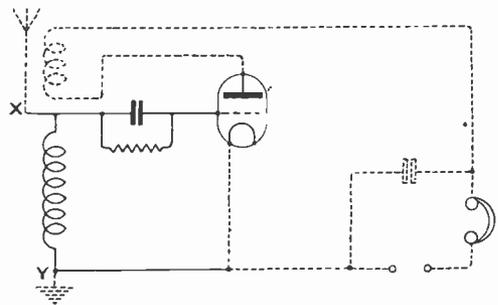

Fig. 4.
(4) Switch on L.T. and H.T. and tighten reaction coupling until the set oscillates (or doesn't, as the case may be). If no oscillation results, reverse the connections of the plate coil (unless you are certain they are correct), and try again. No response indicates a fault in the circuits shown with a full line in Fig. 4.